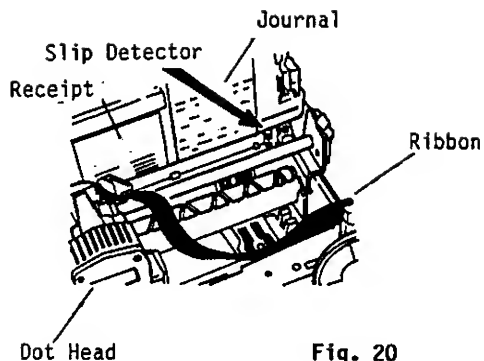

Fig. 20
4. The slip detector is indicated by the arrow in Fig. 20. If the dot head is located on the right side of the machine, close the Cutter Block and turn the power on and off again, and the dot head will move and stop on the left side.